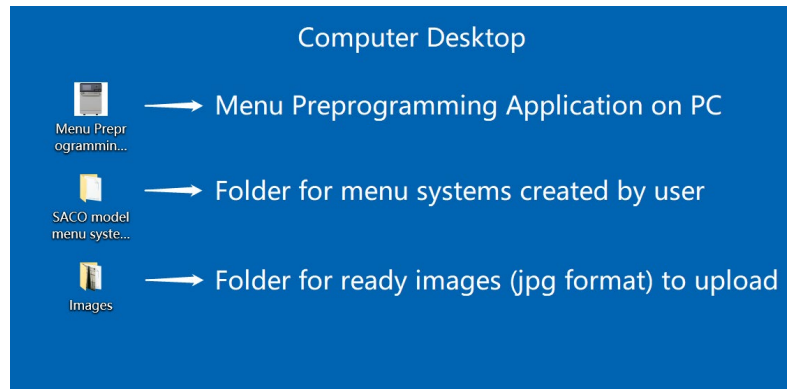

Figure 17
6.1.3 Create two folders on desktop: One folder is for new menu system which is created on computer by user, the other folder is for the image which is ready to be uploaded to the menu system (shown in Fig17)